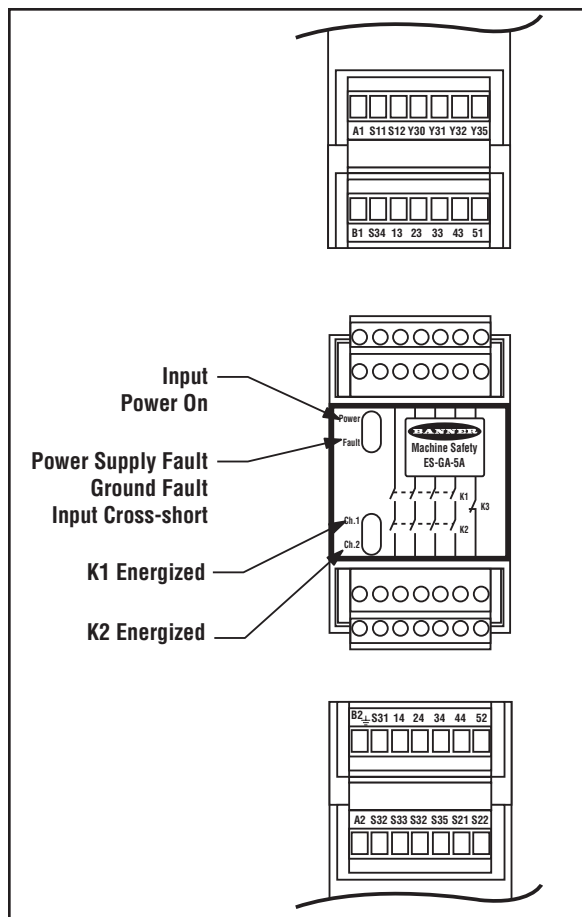
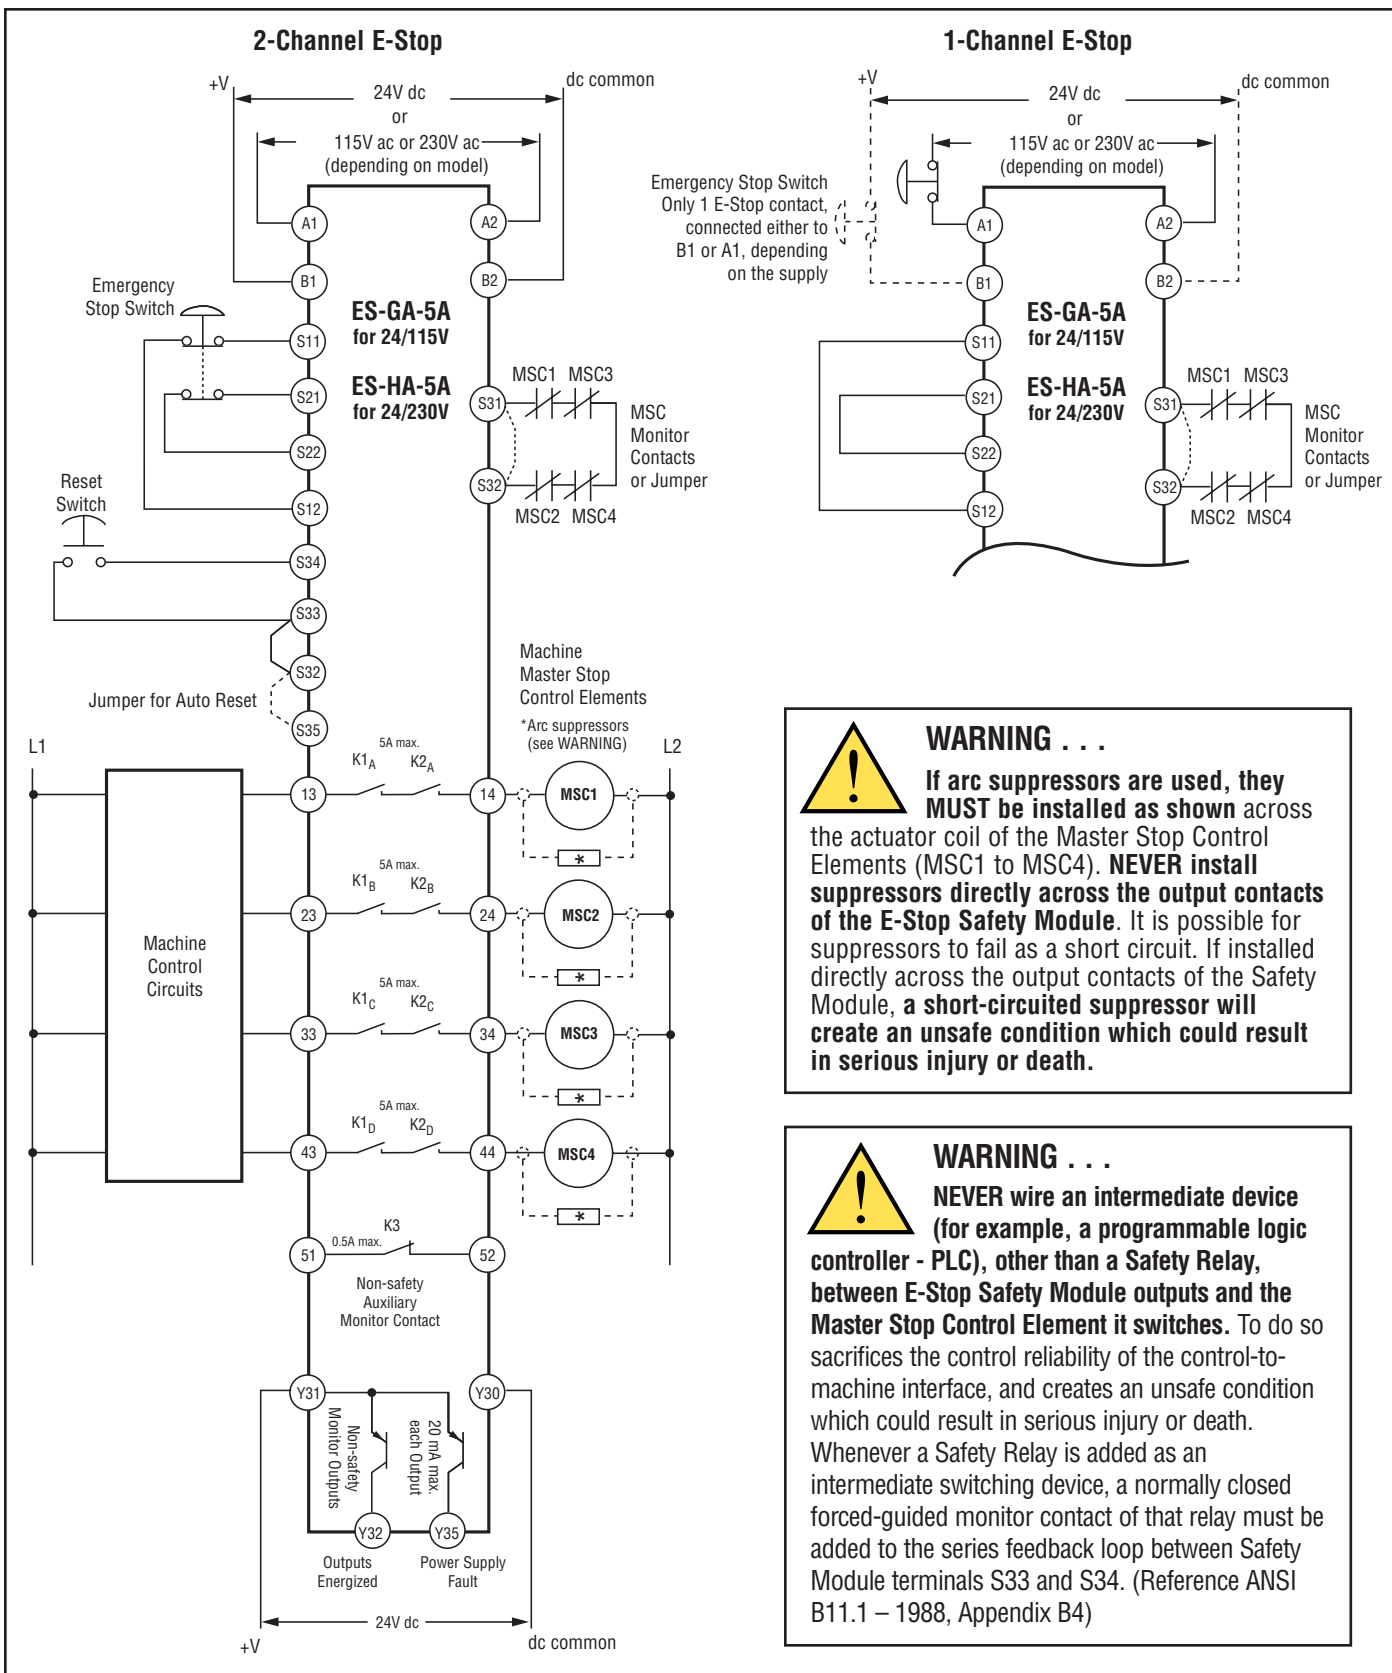
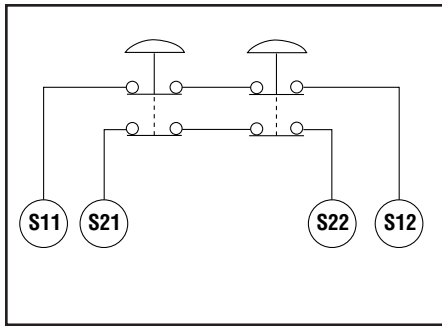

Figure 1. ES-...A-5A Status indicators and terminal locations
Figure 2. Hookup of ES...A-5A E-Stop Safety Module, 1- and 2-Channel E-Stop Applications
Figure 3. Series connection of multiple E-stop switches
As indicated in Figure 2, the model ES-...A-5A E-Stop Safety Module is designed for use with a 1-channel or 2-channel E-stop switch. A 2-channel E-stop switch has two electrically isolated contacts.
As shown in Figure 2, the E-stop switch becomes an input to the E-Stop Safety Module. The Safety Module monitors the condition of both contacts of the E-stop switch.
The output of this E-Stop Safety Module consists of four redundant output switching channels, each of which is the series connection of two forced-guided relay contacts (K1 and K2 in Figure 2). The four switching output circuits of the E-Stop Safety Module are rated for up to 250V ac at up to 5 amps.
The E-Stop Safety Module also provides a necessary reset function. ANSI B11 and NFPA 79 standards require that a reset routine be performed after returning an E-stop switch to its closed-contact position. This prevents the controlled machinery from restarting by simply closing the E-stop switch. Model ES-..A-5A may also be configured for automatic reset (see Figure 2). **The automatic reset mode is useful for some automated processes. However, when automatic reset is used, an alternate means must be established to require a reset routine after the E-stop switch is returned to its closed contact position (see WARNING on page 8).**
The Safety Module has indicators for input power, fault (power supply fault, input cross short, ground fault) and output relay contact status (K1 and K2); see Figure 1. There are no adjustments and no user-serviceable parts. See page 11 for information regarding repair service.
As shown in Figures 2 and 3, the E-stop switch must provide contacts which are closed when the switch is in the “armed” position. Once activated, the E-stop switch must open its contacts and be returned to the closed-contact position *only* by a deliberate action (such as twisting, pulling, or unlocking). The switch should be a “positive-opening type,” as described by IEC947-5-1. A mechanical force applied to such a button (or switch) is transmitted directly to the contacts, forcing them open. This ensures that the switch contacts will open whenever the switch is activated. NFPA 79 section 13.2, Emergency Stop Devices, specifies the following additional switch (“stop control”) requirements:
Connect the poles of the E-stop switches as shown in Figure 2. The switches are shown in the “armed” position with both contacts closed. Multiple E-Stop switches connected to one E-stop Safety Module must be series connected (see Figure 3 and the warning on page 8).
To satisfy the requirements of Safety Category 4 of EN 954-1, the Master Stop Control Elements must each offer a normally closed, forced-guided monitor contact. One normally closed monitor contact from each Master Stop Control Element is wired in series to the S31-S32 feedback input (see Figure 2). In operation, if one of the switching contacts of either master stop control element fails in the shorted condition, the associated monitor contact will remain open. Therefore, it will not be possible to reset the E-Stop Safety Module. If no MSC-monitor contacts are monitored, a jumper must be installed between terminals S31 and S32 (see Figure 2). **It is the responsibility of the user to ensure that any single failure will not result in a hazardous condition and will prevent a successive machine cycle.**
The hookup diagrams (Figure 2) show a generic connection of the E-Stop Safety Module’s four redundant output circuits to Master Stop Control Elements MSC1 through MSC4. A Master Stop Control Element is defined as an electrically powered device, external to the E-Stop Safety Module, which stops the machinery being controlled by immediately removing electrical power to the machine and (when necessary) by applying braking to dangerous motion (reference ANSI B11.19, section 5.2: “Stop Control”). This stopping action is accomplished by removing power to the actuator coil of either Master Stop Control Element.
The Reset Circuit switch can be any mechanical switch such as a normally open momentary switch, or a two-position key switch. The Reset switch must be capable of reliably switching 12 to 18V dc at 40 to 100 milliamps. As shown in Figure 2, the Reset switch connects between terminals S33 and S34 of the Safety Module. In addition, connect a jumper wire between terminals S32 and S33.
The action of the auxiliary monitor contact, K3, inversely “follows” the action of the output relays, K1 and K2 when power is applied to the E-stop safety module. The contact of K3 is open when the output contacts of K1 and K2 are closed, and vice versa. The K3 auxiliary monitor contact is a light-duty contact to be used only for control functions that are NOT safety-related. A typical use is to communicate the status of the safety module output to a programmable logic controller (PLC). The switching capacity of the K3 auxiliary monitor contact is 125V ac or V dc maximum at 500 mA maximum (resistive load). Connection to the auxiliary monitor contact is made at terminals 51 and 52 (see Figure 2).
There are two solid-state monitor outputs, each capable of switching up to 20 milliamps at 24V dc. One output at terminal Y32 follows the action of the output circuits (K1 and K2); the other output at terminal Y35 opens (low signal) when there is an internal power supply fault. See Figure 2 for hookup information.
- 3) Apply power to the E-Stop Safety Module at terminals A1 and A2 or B1 and B2 (see Figure 2). Verify that only the **Input Power** indicator (Figure 1) is ON. If either of the other two indicators is ON at this point, disconnect the input power and check all wiring. Return to step 2 after the cause of the problem has been corrected.